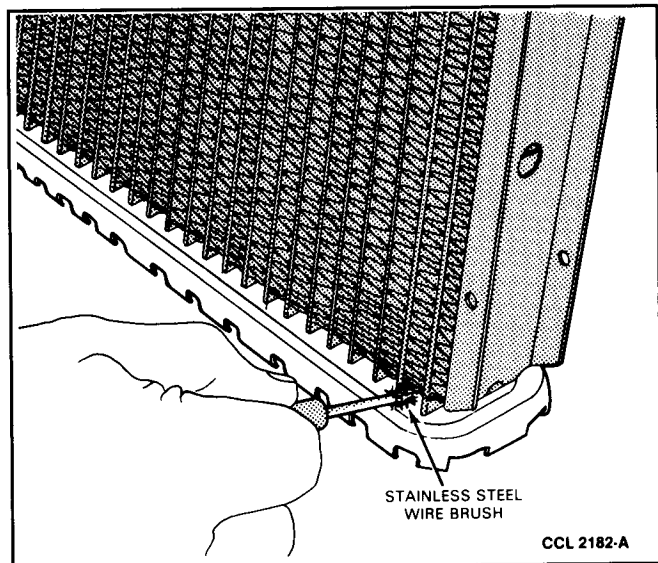

FIG. 17 Cleaning Repair Area With Stainless Steel Wire Brush
1. Thoroughly clean the area around the leak with a stainless steel wire brush (Fig. 17) and, if necessary, emery paper to get to hard to reach areas. **DO NOT USE WIRE BRUSHES THAT ARE NOT STAINLESS STEEL.** Use the brush on the epoxy coating as well as on the aluminum.